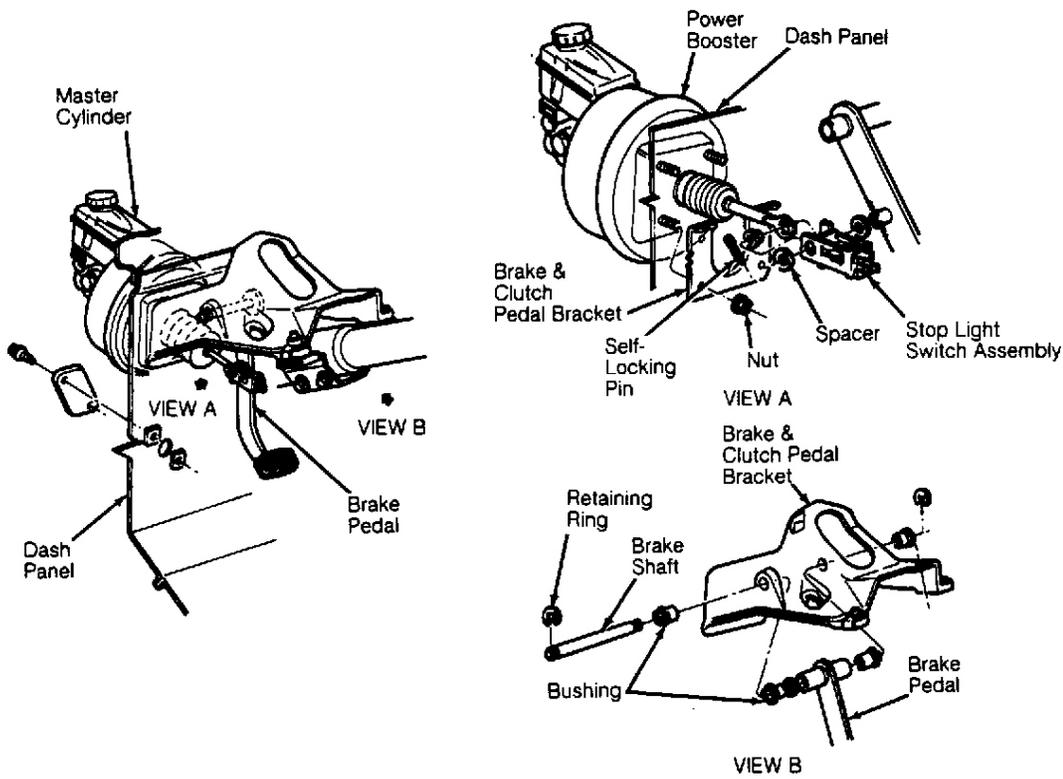

Fig. 22: Removing Master Cylinder & Power Brake Unit (Typical)
2. Remove power brake unit-to-firewall nuts. Remove power brake unit. See **Fig. 22** To install, reverse removal procedure. Bleed hydraulic system.